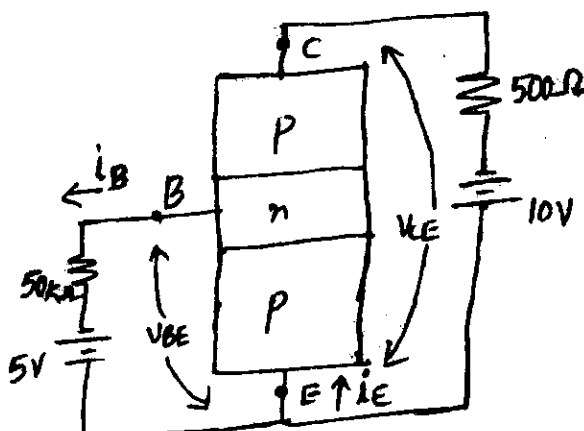

Fig. Q6 (c)
- c. Figure Q6 (c) shows the common emitter amplifier circuit. Calculate  $I_B$  and  $I_C$  assume  $\tau_p = 10 \mu s$ ,  $\tau_n = 0.1 \mu s$  (06 Marks)